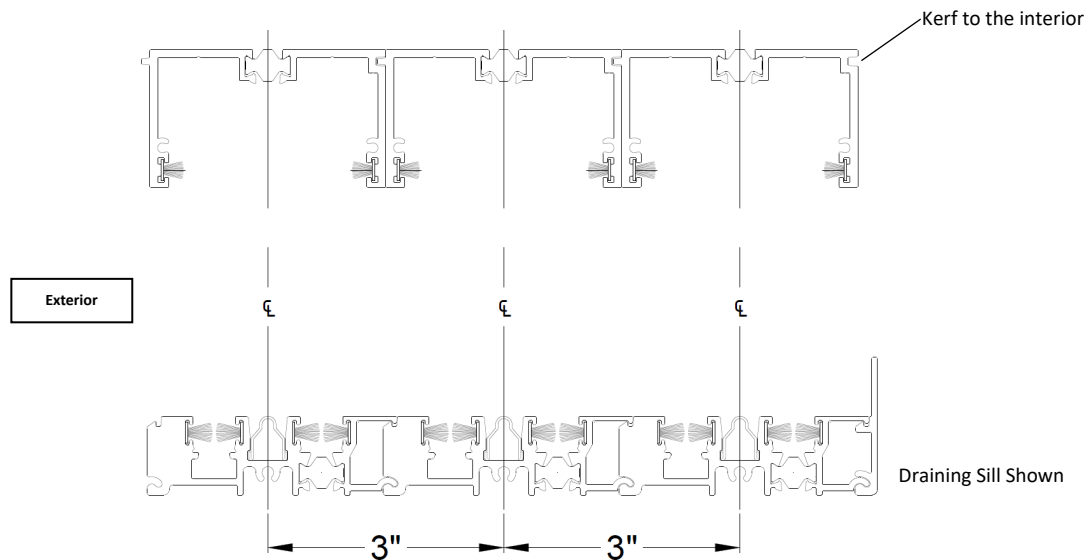
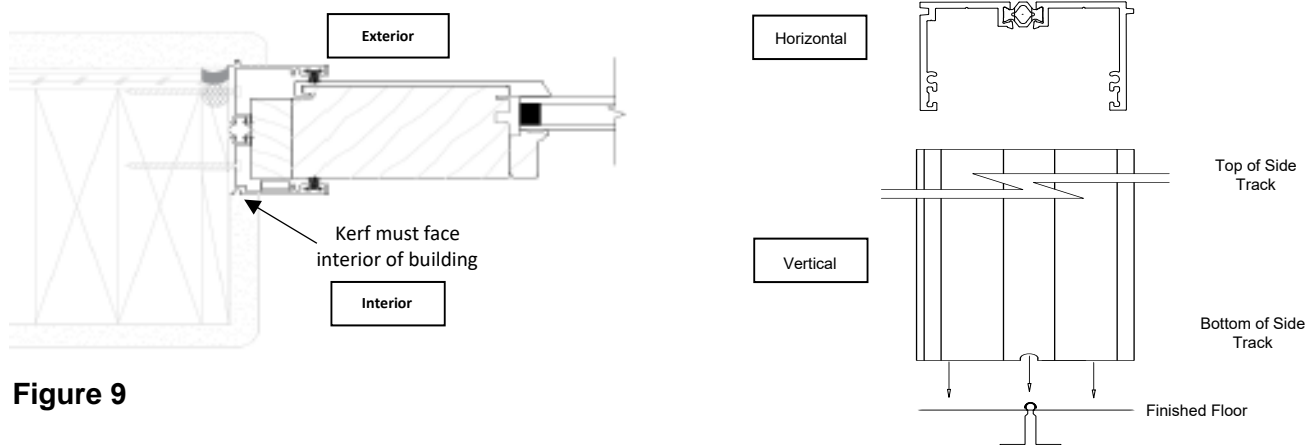

Figure 7
Figure 9
- 3.2 Install the head track with the kerf facing to the interior (see Figure 7).
- 3.3 Using a laser level, place head tracks so the centerline of the head track is centered over each sill track located in the sill assembly. This will ensure the panels are plumb when installed. The width or depth of the head track assembly and sill assembly are different. The outside edges of the head track assembly will not be plumb with the outside edges of the sill track assembly (see Figure 7).
- 4.1 Align the side jamb tracks to the sill in similar fashion as the head tracks. (See Figure 7 on previous page). The locking side jamb track will be to the interior and the side jamb track holding the stationary panel will be to the exterior. The kerf on both the interior and exterior side jamb tracks should face to the interior of the building (see Figure 9). The side jamb tracks butt up against the head tracks and are placed directly on the draining sill. Side jamb tracks for t-track application align the slot at the bottom over the t-track. Side jamb tracks for t-tracks are cut short to allow for finished flooring below it.